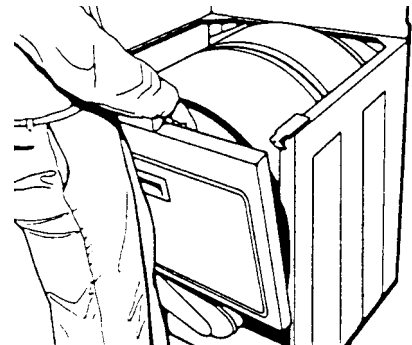

Fig. 40
8. Lift up and remove front panel. (Fig. 40)